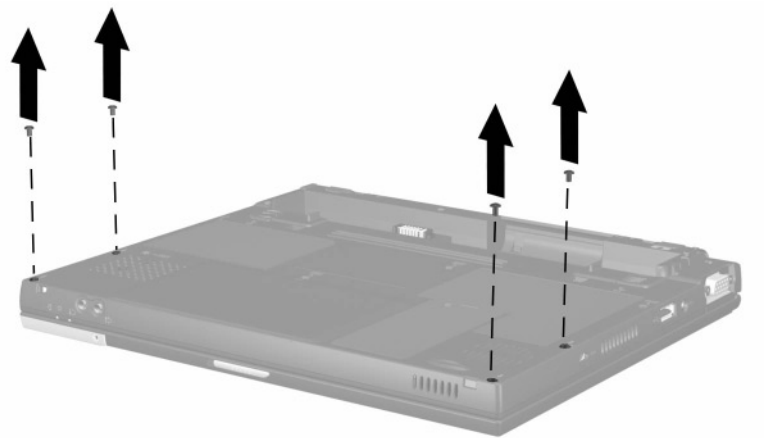

Figure 5-5. Removing the Palm Rest Screws
3. Remove the four TM2.0 × 6.0 screws that secure the palm rest to the base enclosure (Figure 5-5).